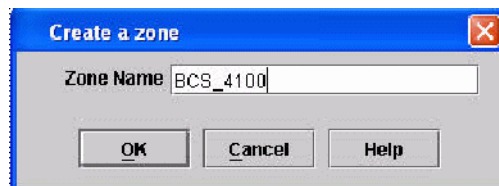

Figure 7-55 Create a zone window
14. In the Create a zone dialog box (Figure 7-55), enter a name in the Zone Name field and click **OK**. In our example, we typed BCS_4100.